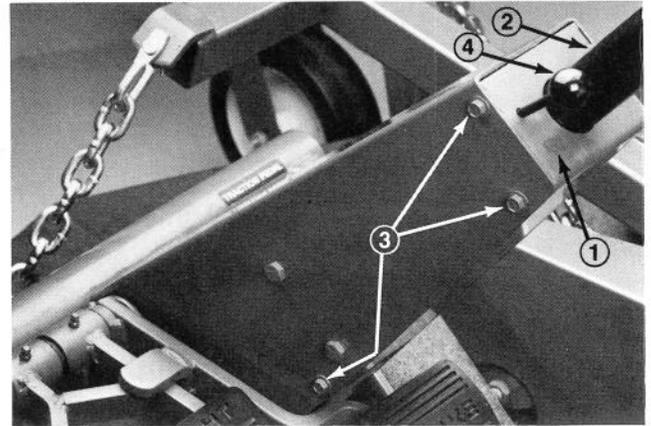

Figure 3
8. Slide steering column cover onto steering post and parking brake rod (Fig. 3). Mount the cover to inside of steering tower with six self tapping screws (1/4 - 20x5/8 in.) (Fig. 3). Install the knob on parking brake rod.